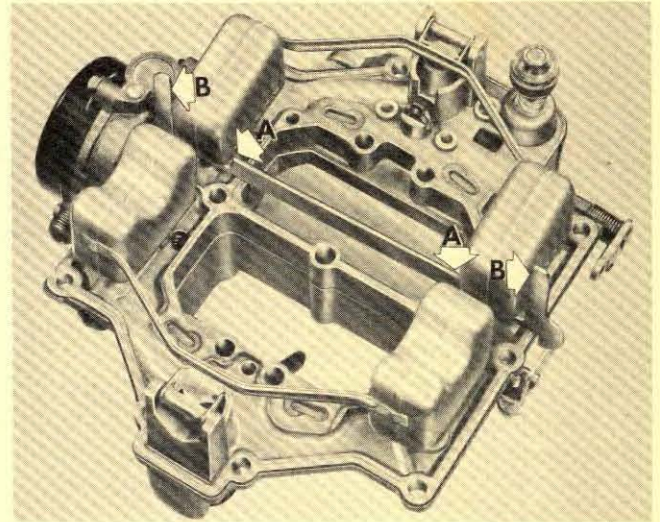
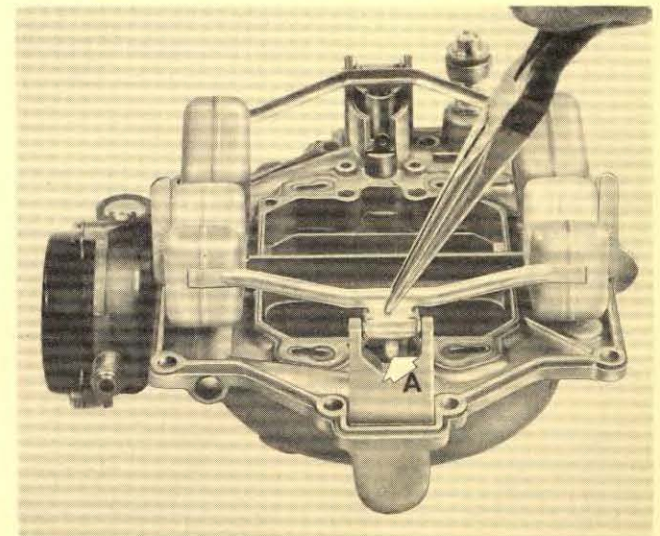
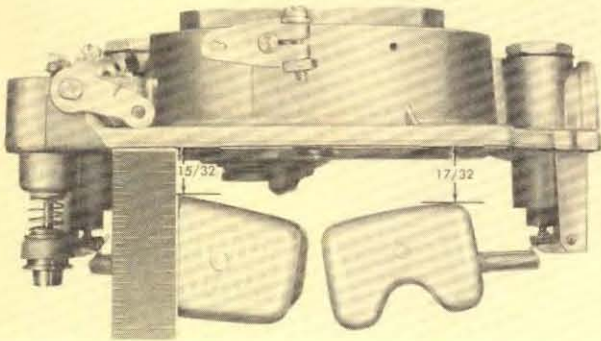

Fig. 4
Fig. 5
Fig. 6
Lateral Adjustment: With bowl cover assembly inverted and float resting on seated needle, place float gauge under floats with notched portion of gauge fitted over edge of casting. Side of floats should just clear the vertical uprights of the float gauge, "B" Fig. 4. Adjustment is made by bending arms of floats.
Vertical Adjustment: With float gauge in same position, floats should just clear the horizontal section of gauge, "A" Fig. 4. Vertical distance between top of float and machined surface of bowl cover must be $\frac{1}{8}$ inch (gauge T109-232) for primary floats and $\frac{3}{16}$ inch (gauge T109-222) for secondary floats. Adjust by bending float arms as shown in Fig. 5.
B. Float Drop Adjustment: With the bowl cover (air horn) supported in an upright position, the distance from the machined surface on the bowl cover to the top of the secondary floats should be $\frac{17}{32}$ ", Fig. 6. The distance for the primary floats should be $\frac{15}{32}$ ", Fig. 6. Adjust by bending tang indicated by "A," Fig. 5.